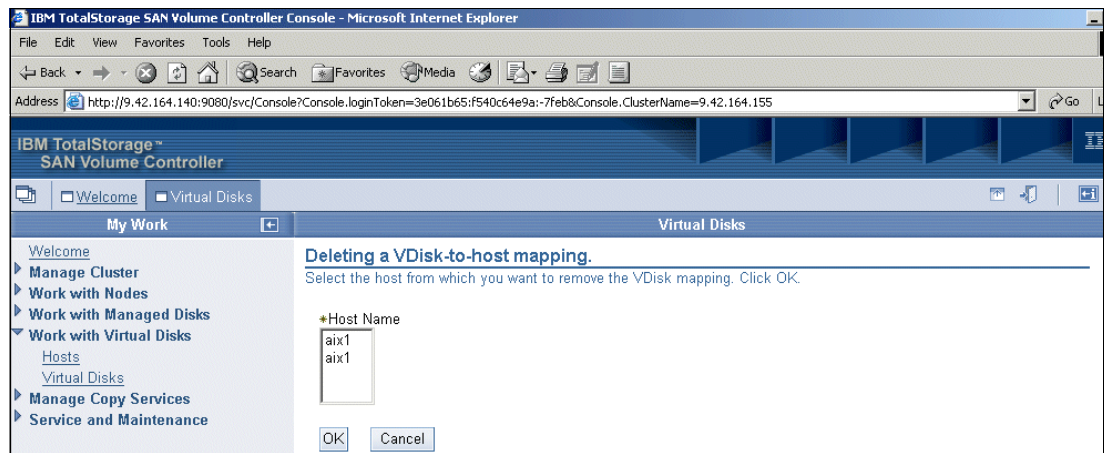

Figure 9-69 Deleting a vDisk-to-host mapping
2. On the Deleting a vDisk-to-host mapping panel (Figure 9-69), from the Host Name list, select the host from which to unassign the vDisk. Click **OK**.